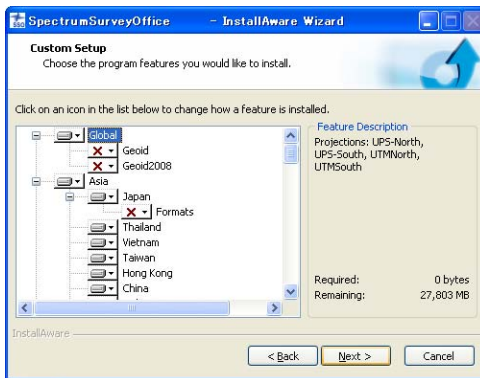

Figure 1-9. Custom Setup Window
4. Highlight the desired features (projection or projection and geoid) in the Custom Setup window (Figure 1-9)